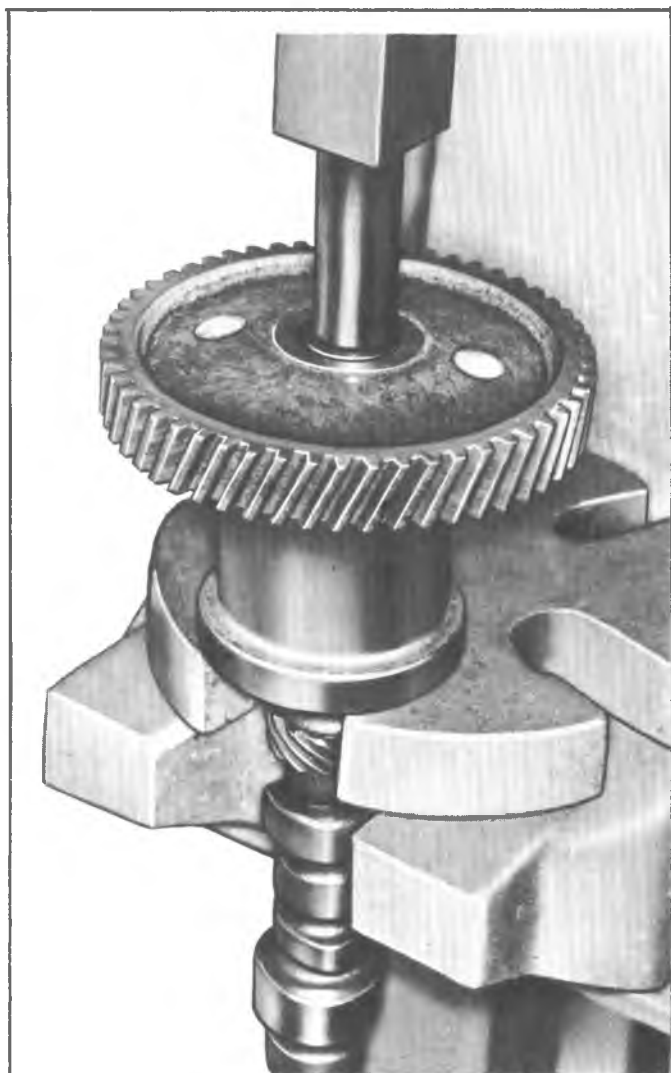

Fig. 66—Removing Camshaft Gear
2. Place the camshaft through the gear remover, place end of remover on table of a press and press shaft out of gear (fig. 66).